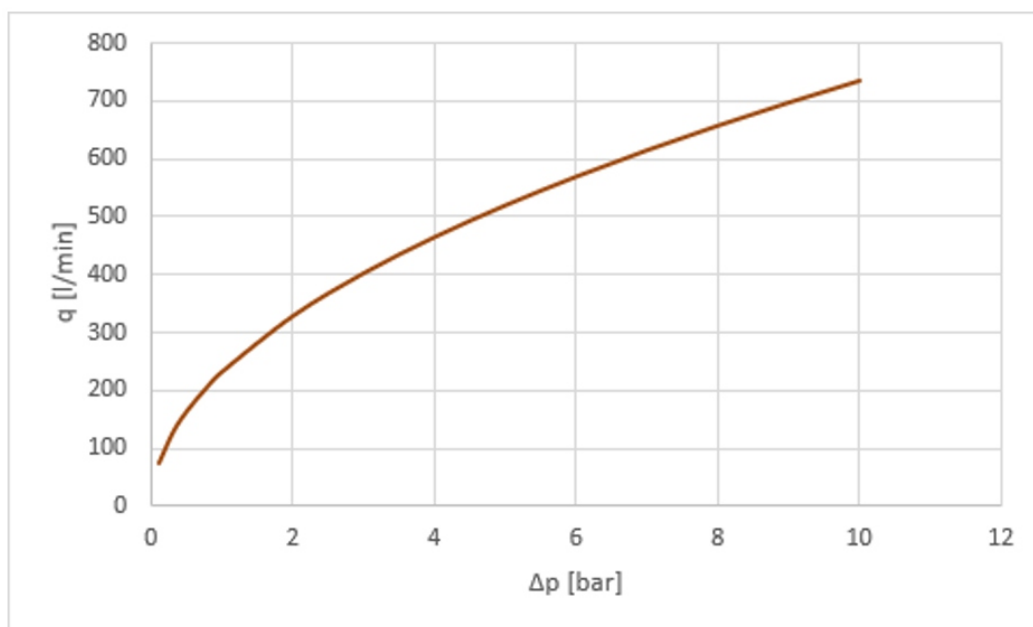

Figure 2 - PQ characteristic of the TCimp protection block
- Maximum flow 720 l/min at 10 bar differential pressure (Figure 2)